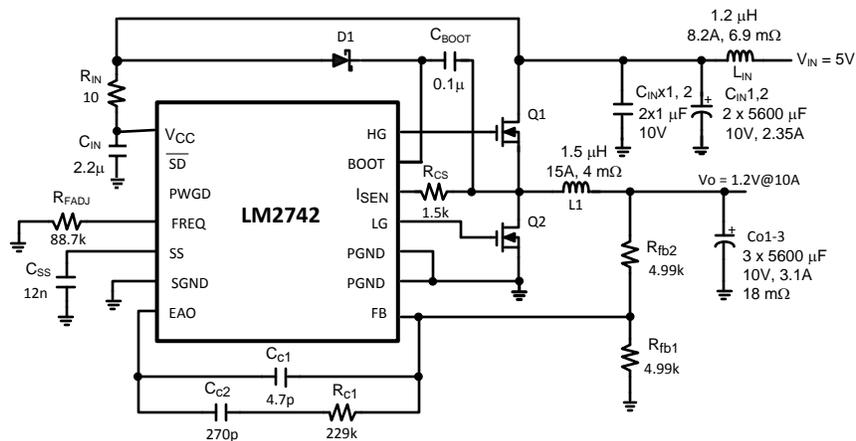

Figure 32. 5V to 1.2V, 10A, 300kHz
The following is a design procedure for all the components needed to create the circuit shown in Figure 32 in the Example Circuits section, a 5V in to 1.2V out converter, capable of delivering 10A with an efficiency of 85%. The switching frequency is 300kHz. The same procedures can be followed to create many other designs with varying input voltages, output voltages, and output currents.
The  $C_{inx}$  capacitors are high frequency bypass devices, designed to filter harmonics of the switching frequency and input noise. Two  $1\mu\text{F}$  ceramic capacitors with a sufficient voltage rating (10V for the Circuit of Figure 32) will work well in almost any case.
The following shows an efficiency calculation to complement the Circuit of Figure 32. Output power for this circuit is  $1.2\text{V} \times 10\text{A} = 12\text{W}$ .
**Table 3. Bill of Materials for Circuit of Figure 32**
**Table 3. Bill of Materials for Circuit of Figure 32 (continued)**